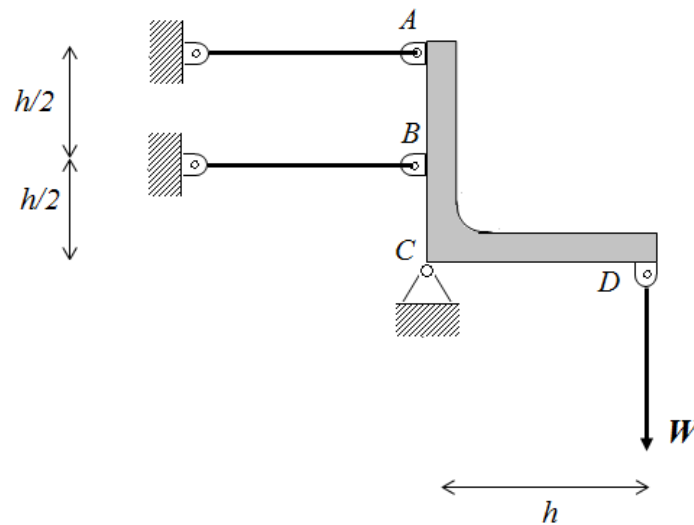

Figure Q2
2. A rigid mechanical component as shown in Figure Q2 is hinged at point C, held by two identical wires at points A and B, and is subjected to a vertical load W at point D. Each wire has an axial rigidity, EA , of 200 kN and a thermal expansion coefficient of $12 \times 10^{-6}/^{\circ}\text{C}$.